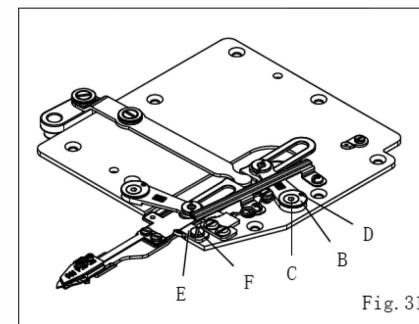

Fig. 31
调整时可放松摇臂之偏心轮(B)上之螺丝(C)，再转动偏心轮，使活动刀片移到正确位置。偏心轮上之记号(D)正常时，大约处于 3 点钟方向位置。(图 31)
当要调整偏心轮(B)改变切刀角度位置时，必须先放下切刀托架导引片(E)上之螺丝(F)，等调整好切刀组角度后再将导引片(E)轻轻靠在下切刀托架，锁紧螺丝(F)。(图 31)
Please set up the mark (D) of Eccentric Ring to 3 o'clock position in ordinary. (Fig. 31)
When you would like to adjust the Eccentric Ring for changing the angle of under trimmer, please loose the screw (F) of Lower Knife Carrier Guide. (E) Please let the Lower Knife Carrier Guide (E) touch Lower Knife Carrier in gently and lock the screw (F) down after the angle of trimmer have been adjusted. (Fig. 31)